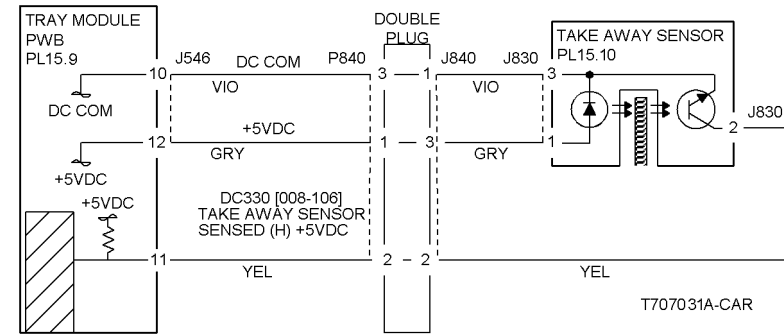
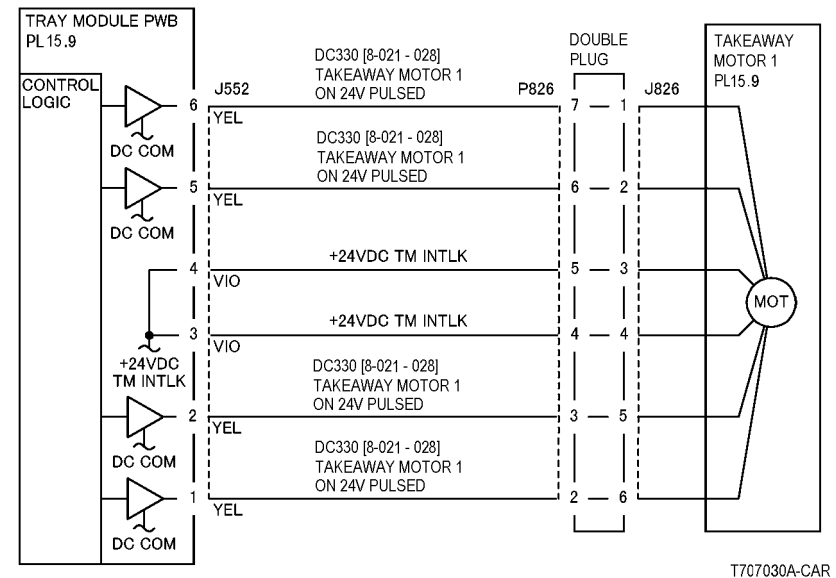

Figure 1 8-149 RAP Circuit Diagram - Takeaway Sensor
Figure 2 8-149 RAP Circuit Diagram - Takeaway Motor 1
Refer to Figure 2. Check the wires from the Tray Module PWB to the Takeaway Motor 1 for an open circuit. If the wires are good, replace the Takeaway Motor 1 (PL 15.9).
- Ensure that the connectors shown in the circuit diagrams (Figure 1, Figure 2) are securely connected and that the wires are not damaged.